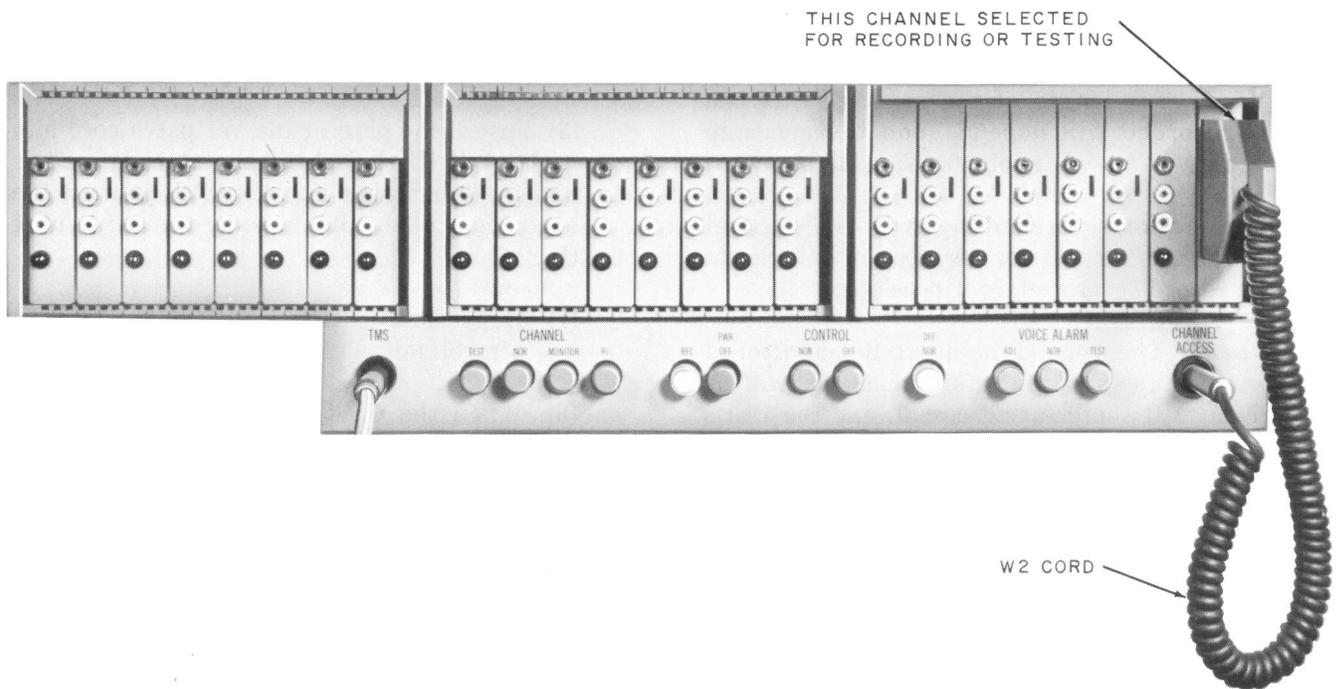

Fig. 5—Modular Message Channel Module and Control Unit
- (3) Insert one plug of the W1 patch cord into SIGNAL jack on storage module and the other plug into TMS jack on the appropriate modular message control unit (Fig. 5).
- (4) Insert one plug of the W2 patch cord into the CHANNEL ACCESS jack on the appropriate modular message control unit. Insert the other end of the W2 patch cord